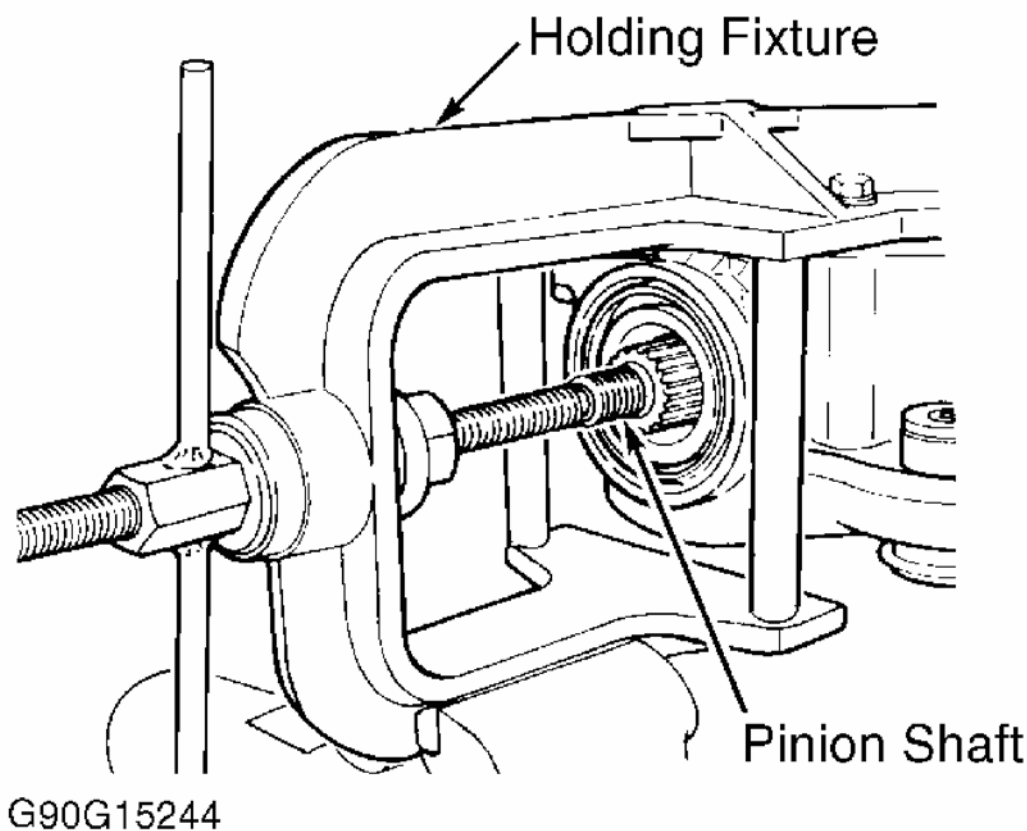

Fig. 11: Pressing Pinion From Carrier
6. Using Pinion Flange Remover Set (J-8614-01), hold pinion flange stationary and remove pinion nut, flat washer and pinion flange. See **Fig. 3** . Remove deflector from pinion. Mount left carrier case half in holding fixture from Pinion Service Set (J-36598). See **Fig. 11** . On K2, use Adapter Plate (J-36598-6). On all models, press pinion from case. Remove pinion with attached shim, inner bearing and spacer as an assembly. Remove collapsible spacer from pinion.